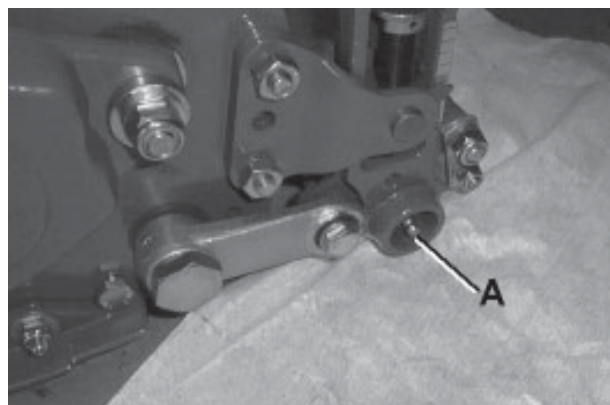

Fig.2
(A Fig.2)
2. Ensure that an equal amount of adjustment is made to both adjusters on all the cutting units. To assist in obtaining equal adjustment height of cut indicators (B Fig.2) are provided at each end of the roll assembly.